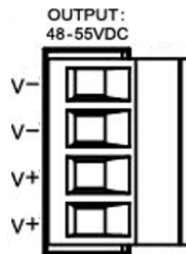

Figure 2.6 - Power Terminal Block
1. Insert the positive and negative wires into the PWR (V-, V-, V+, V+) contacts on the terminal block connector as shown below in *Figure 2.6*.